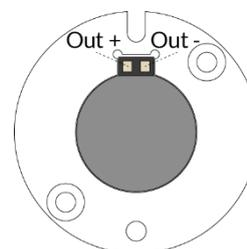

Figure 2: Schematics of gRAY mounted detectors. The respective solder pads are indicated for the two detector models.
- Connect the detector electrically by soldering wires to the solder pads of the detector (see Fig. 2). For detector B05-MC, the signals of the two sensors can either be read-out individually or differentially. For the differential signal, a solder bridge needs to be formed on the board at position SB in Fig. 2.